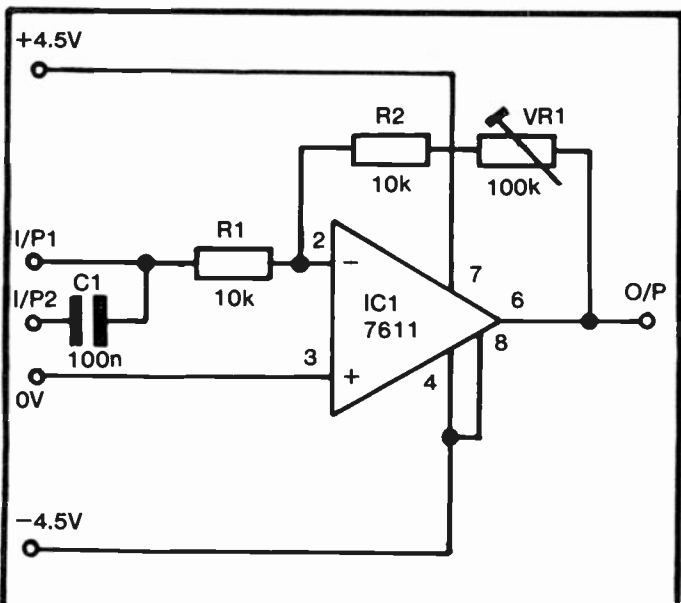

Fig. 60 Circuit diagram of Module 32.
*Circuit diagram:* see Figure 60.